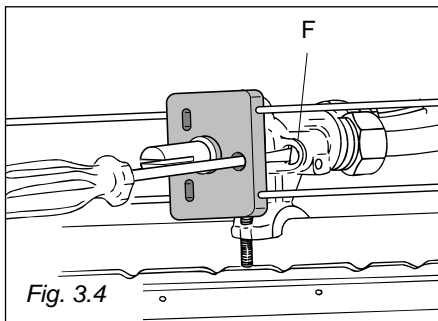

Fig. 3.4
- With a thin screwdriver pass by the hole of microswitch and turn the screw **F** until adjustment is correct (fig. 3.4).